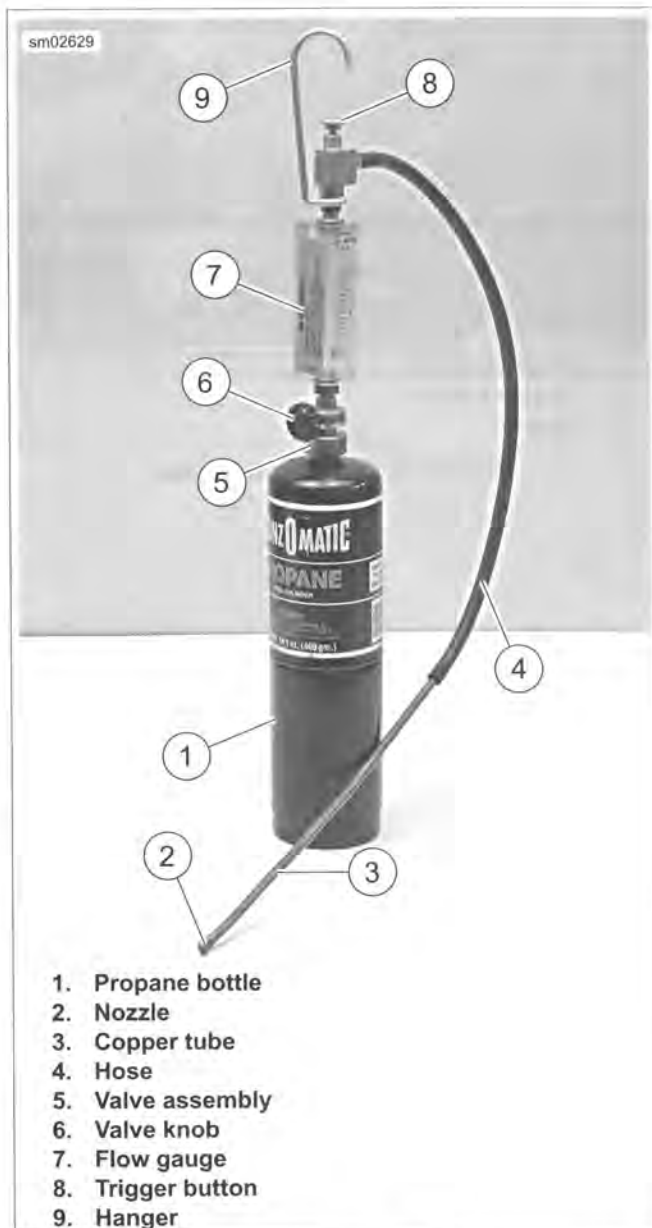

Figure 4-4. Leak Tester
- See Figure 4-4. Make sure valve knob (6) is closed (fully clockwise).
- Screw valve assembly (5) onto propane bottle (1).
- See Figure 4-4. Press and hold trigger button (8).
- Slowly open valve knob (6) until pellet in flow gauge (7) rises 5-10 SCFH on gauge.